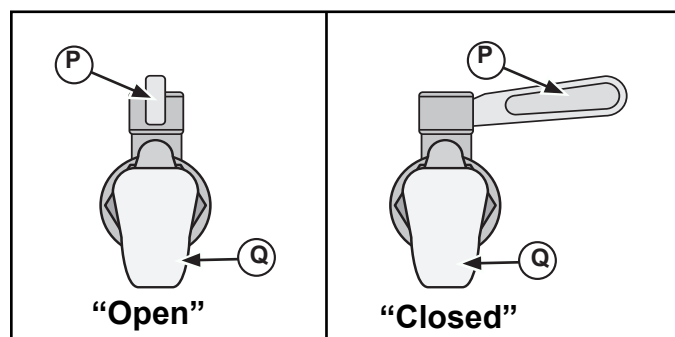

Figure 4. Drain and Drain Lever Positions.
1. For units with baths check that the drain valve lever (P) is in the closed position. See Figure 4. Or, clamp the circulator to a vessel that is 5.3 qt (5L) to 37 qt (35L) in volume.